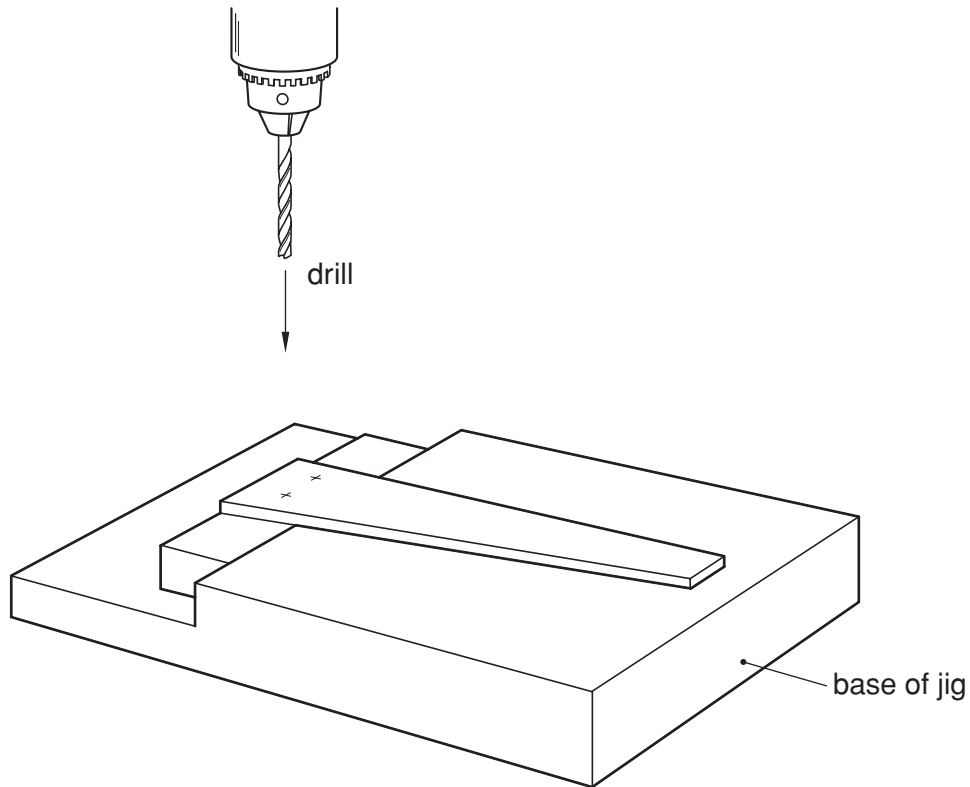

Fig. 4
- 2 A manufacturer produces a batch of 'T' Squares. The 'T' square has two parts joined using a fitting that requires a $\text{Ø}6$ hole. Fig. 4 shows a simple jig used when drilling holes for the fittings.